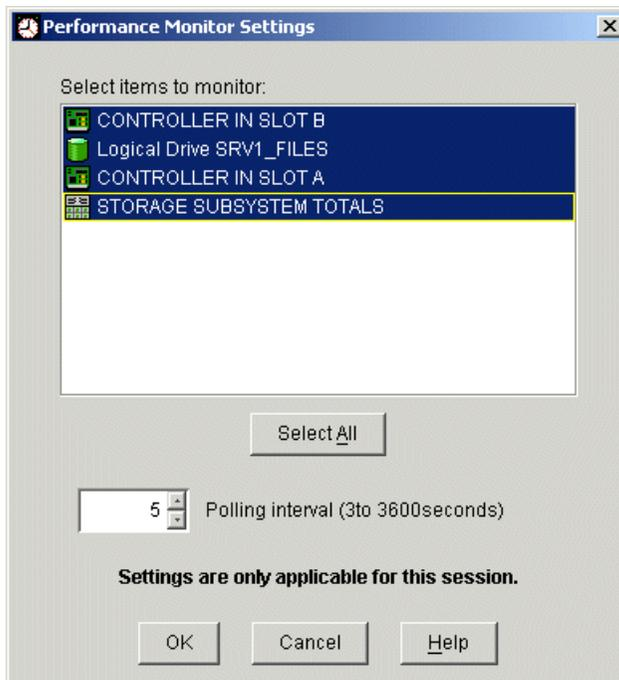

Figure 6-9 Performance Monitor Settings window
- To determine when and which data is captured, click **Settings...**. The Performance Monitor Settings window is displayed (see Figure 6-9):